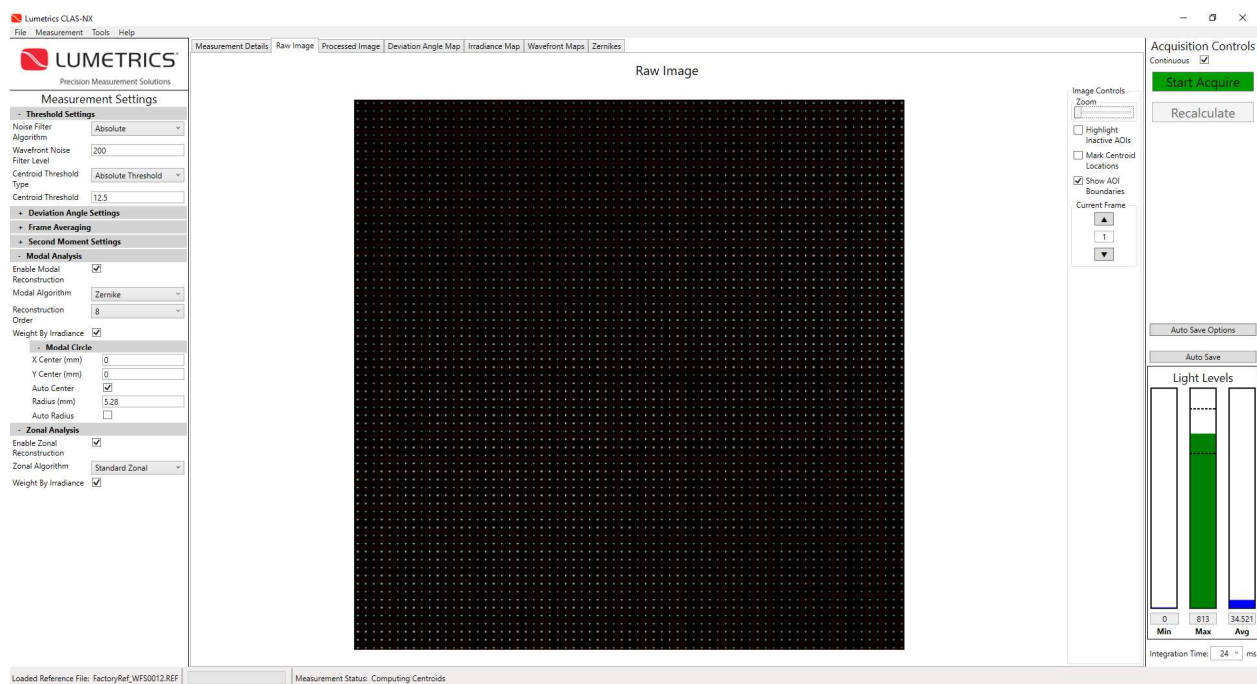

Figure 41: Raw image showing even spaced centroid foci
1. Open the raw image tab and confirm the image is a series of uninterrupted dots, see Figure 41.